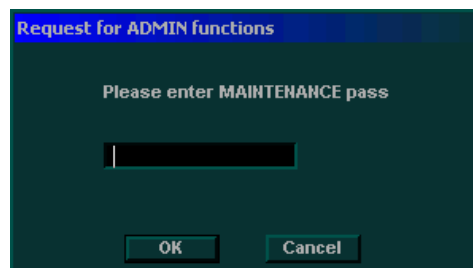

Figure 3-37 Password Request Dialog Box
- 4) Trackball to the **SERVICE** button at the bottom of the **Views** tab, and press **Select**. The password request dialog box, shown in Figure 3-37 "Password Request Dialog Box" on page 3-54, is displayed.